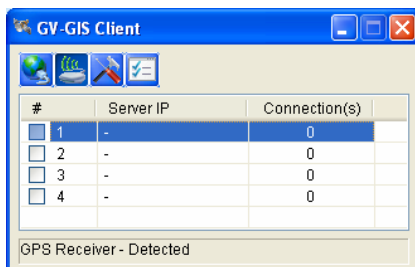

Figure 11-93
2. Click the  button on the GV-GIS Client window (Figure 11-93). This dialog box appears.
- Click the  button on the GV-GIS Client window (Figure 11-93). This dialog box appears.